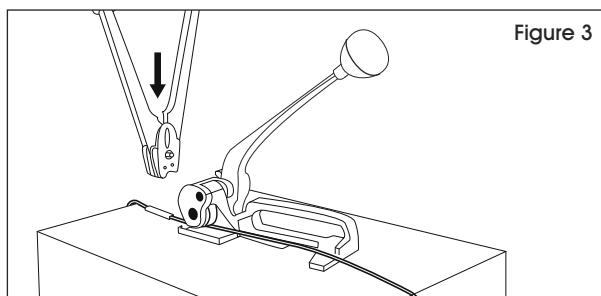

Figure 3
2. Close nose of sealer around seal. Crimp tightly around strapping. (See Figure 3)